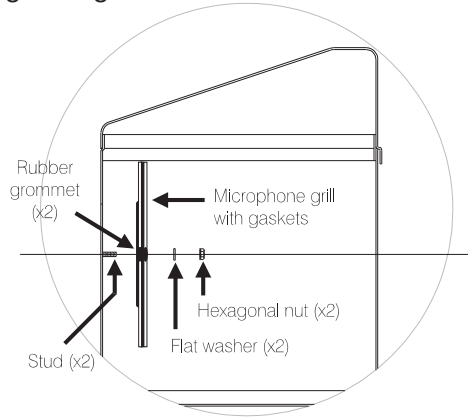

Figure 5A.
- ii. Position the grill over the opening near the inside, top of the speaker post as shown in Figure 5A, so the adhesive side of the gasket is toward the outside, front of the speaker post. The gasket with the round hole should be facing you as you look into the back of the speaker post, with the opening in the circle pointing down. Align the two rubber grommets in the sides of the grill with the two threaded studs on each side of the grill opening, and press firmly on the rubber grommets until they are all the way down over the studs. Be careful not to push the grommets out of their mounting holes. Rub the surface of